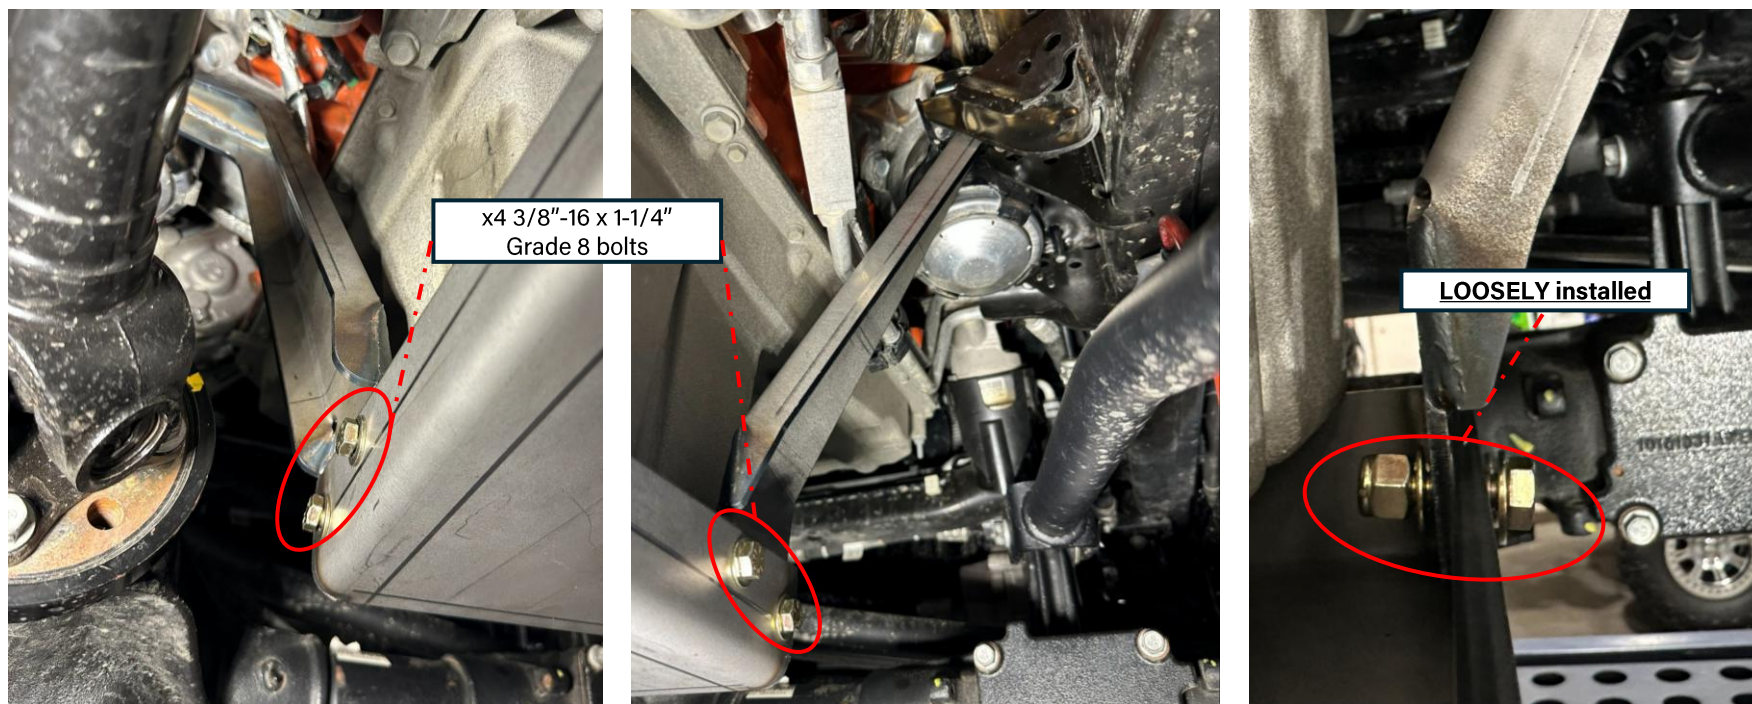

Figure 39: New skid plate installed at OEM 6.4L motor mount locations and skid plate connections
32. Move to the front of the skid plate to install the remaining hardware. Raise the skid plate into position and install the x4 3/8"-16 bolts through the holes on the engine skid plate brackets and feed them through the skid plate. **Use x2 washers for each bolt** as seen below in Figure 39. **Loosely** fasten the bolts on the inside of the skid plate with the provided lock nuts.